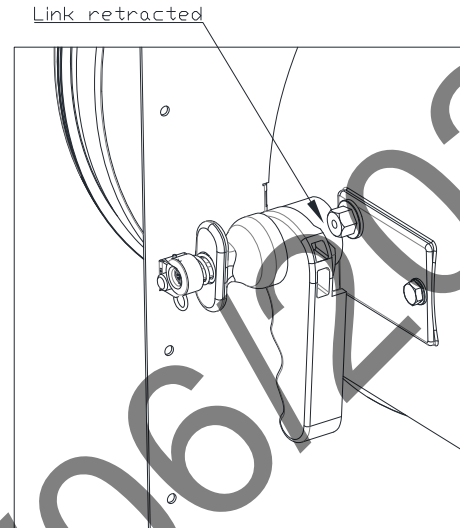

Figure 3
2. Referring to page 3, figure 3 if necessary, unscrew the machine screw in the shaft end cap (pozi-drive screwdriver required).